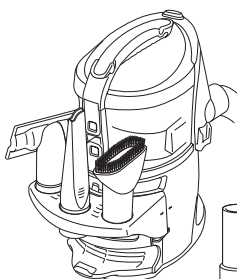

Fig. 14
- 1 Store the dusting brush, upholstery brush and the crevice tool on the mounts on the removable tool caddy. (fig. 14)